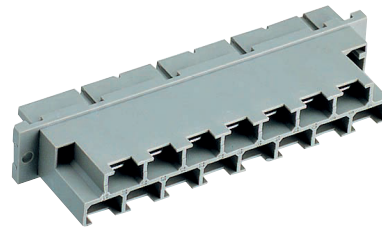

Fig. 31
- Mating H15 connectors with screw, solder, faston, or press-fit terminals; see fig. 31